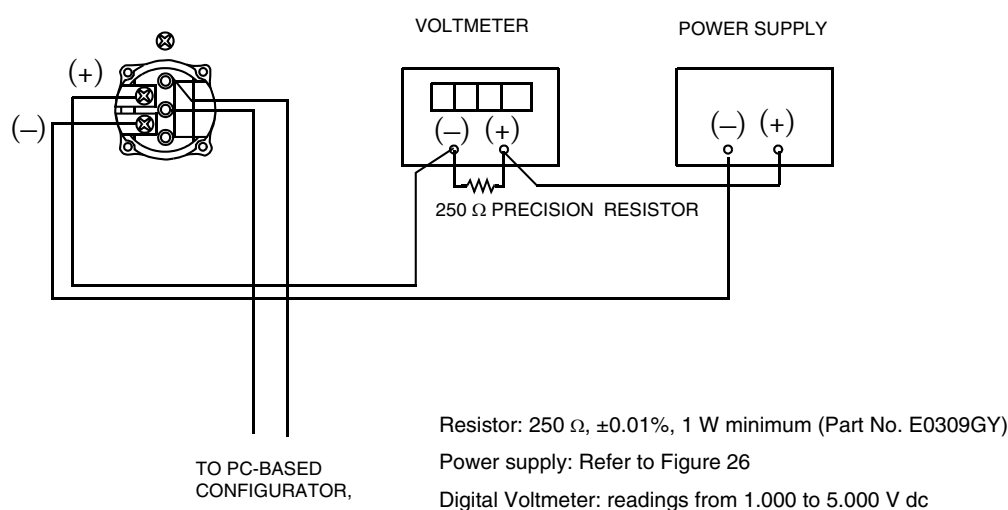

Figure 32. 4 to 20 mA Output Calibration Setup of Electronic Equipment
5. If calibrating the output signal, also connect equipment as shown in Figure 32.
If calibrating the output signal, also connect equipment as shown in Figure 32.